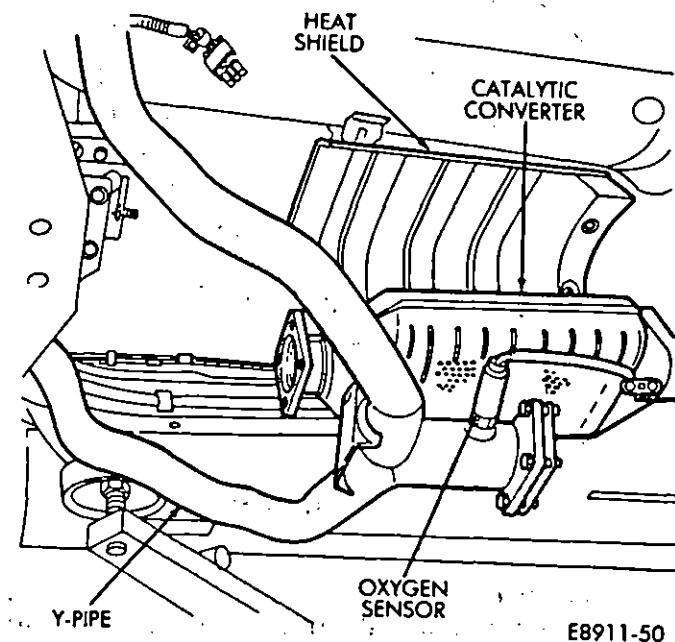

Fig. 3—Catalytic Converter and Y-pipe
(6) Disconnect the Oxygen (O_2) sensor electrical connector (Fig. 3).
(7) Remove the two (2) small bolts and the large through bolt securing the Y-pipe C-bracket to the transaxle rear mounting bracket.
(8) Remove the nuts securing the Y-pipe flanges to the exhaust manifolds. Pull the Y-pipe back and away from the exhaust manifolds.